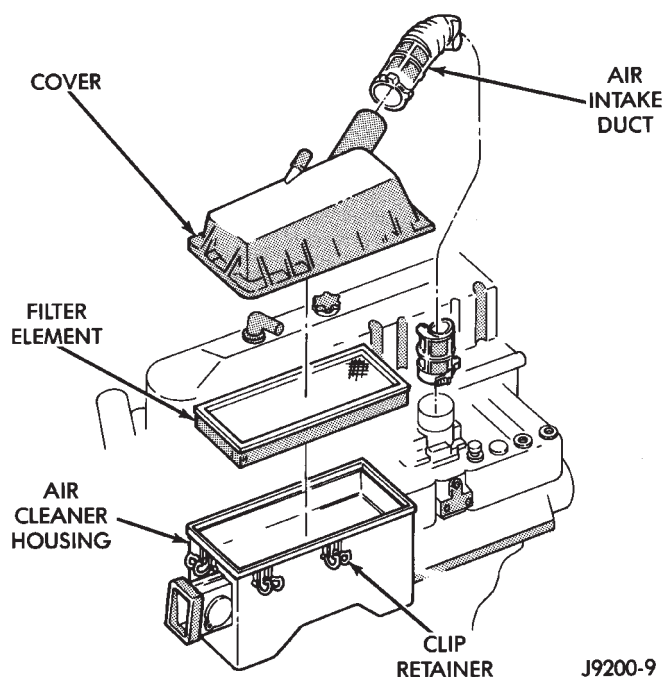

Fig. 5 Engine Air Cleaner
- (1) Remove air cleaner cover.
- (2) Remove air cleaner filter (Fig. 5).
(3) Clean filter by gently blowing trapped debris from filter medium with compressed air. Direct air in opposite direction of normal intake air flow. Keep air nozzle at least two inches away from filter element.
(4) If filter medium has become partially saturated with oil, replace filter element. Inspect crankcase ventilating system for proper operation.
(5) Wash air cleaner cover and body with cleaning solvent. Wipe it dry.
(6) Install air cleaner filter element. Attach cover to body (Fig. 5).